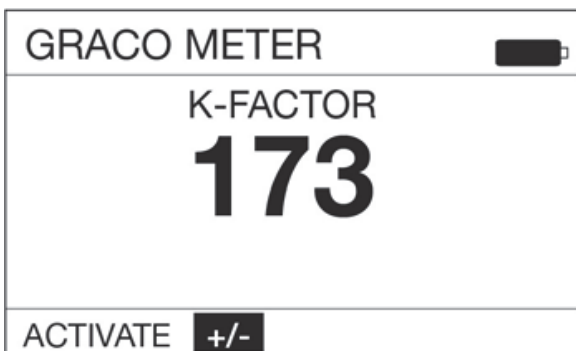

FIG. 19
2. Use the RIGHT ARROW button on the keypad to highlight +/- and press the center ENTER button on the keypad to select the +/- option (FIG. 19).
NOTE: Selecting the GO BACK Function on this screen returns the display to the previous screen (shown in FIG. 19).